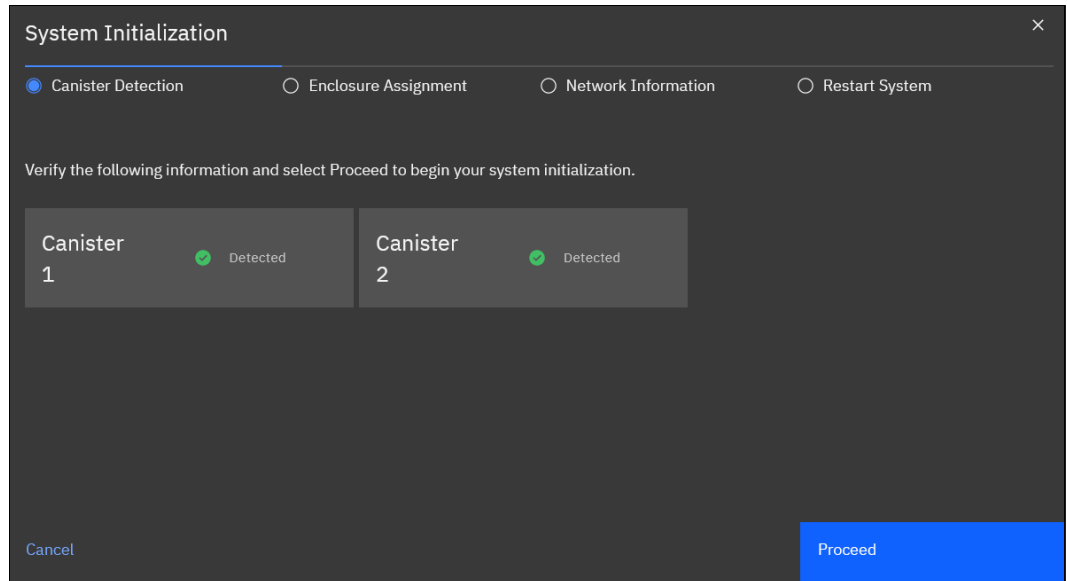

Figure 2-10 System Initialization: Canister detection
- The System Initialization wizard shows the detected canisters, as shown in Figure 2-10. Click **Proceed** to continue (This window is not shown for IBM SAN Volume Controller nodes).